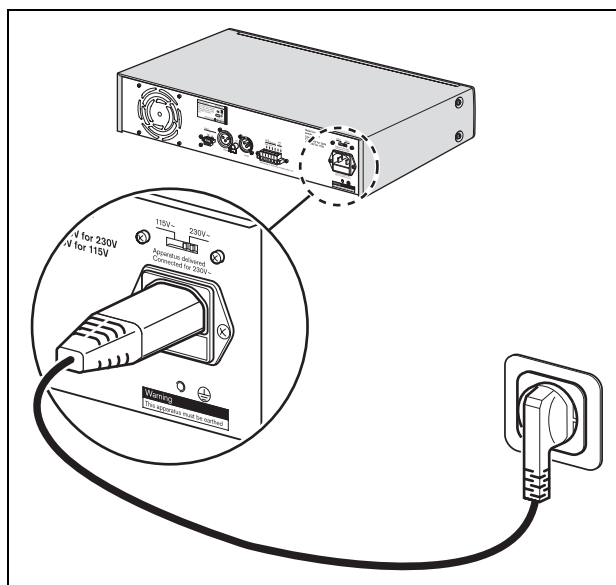

figure 3.2: Power connection and voltage selector
- 1 Make sure the voltage selector (115/230 VAC) is correctly set for the country's main voltage (see figure 3.2).